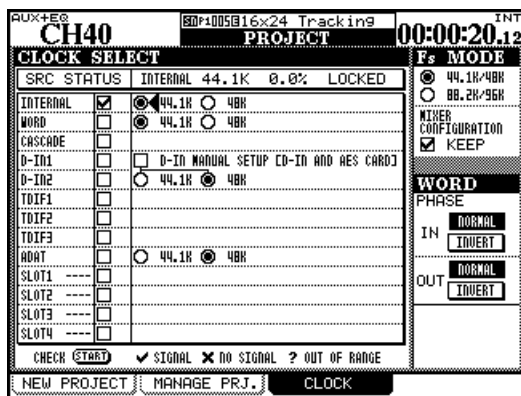

Figure 3.8: PROJECT CLOCK screen
**Fs MODE** The first item to be selected is the use of the high-speed or normal clock. When the lower 88.2K/96K (high-speed) option is selected, many of the 44.1K and 48K legends on the screen as shown above (Figure 3.8, *PROJECT CLOCK* screen change to 88.2K and 96K respectively.